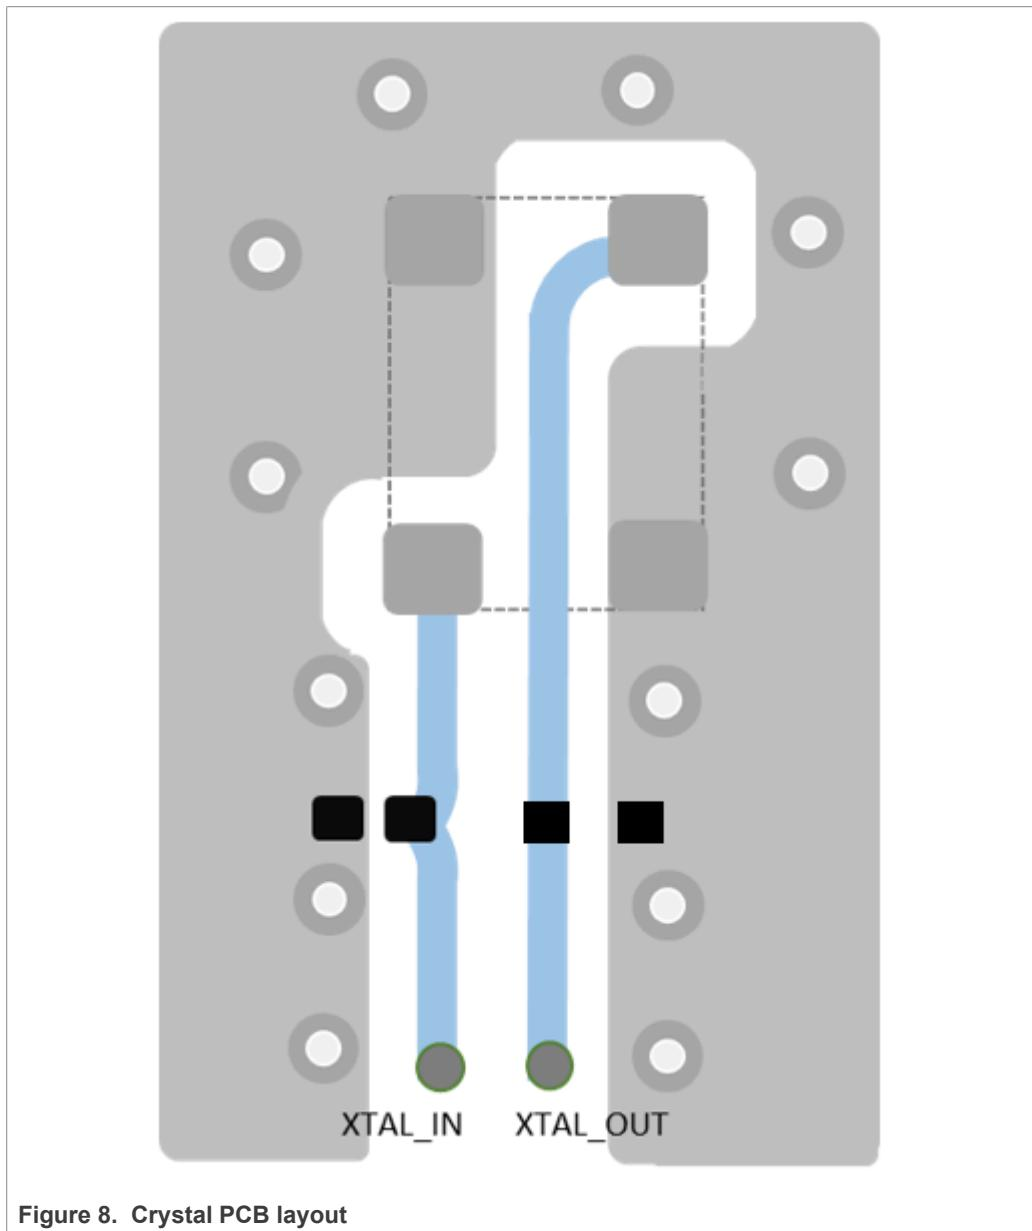

Figure 8. Crystal PCB layout
- Keep XTAL_IN and XTAL_OUT traces as short as possible, as shown in Figure 8.
- Place the ground guard with ground stitching vias around the XTAL_IN and XTAL_OUT traces, as shown in Figure 8.